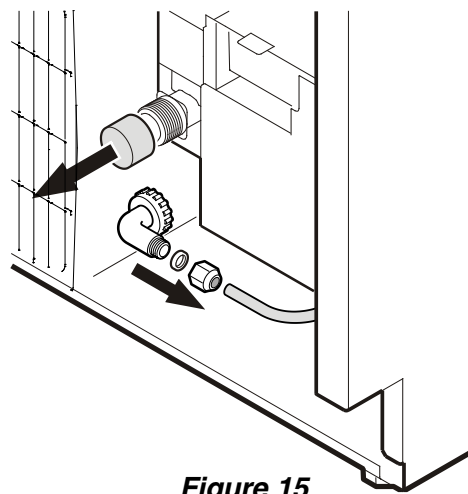

Figure 15
5. Remove the cover from the valve connector (**Figure 15**).
6. The water line is visible at the front of the appliance. Connect the water line with the OD adapter (**Figure 15**).